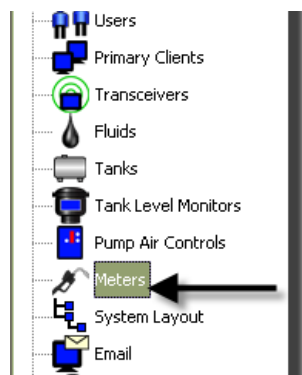

FIG. 118
1. To display the main Meters setup screen, select **Meters** from the list on the Matrix System Panel (FIG. 118).